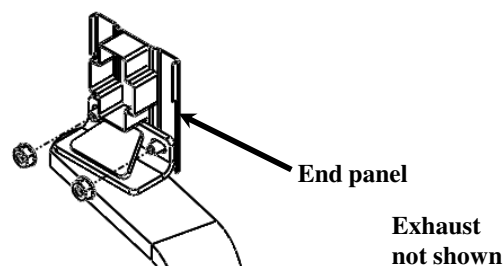

Figure 1
4. Install tie down fastener - Loosely install the remaining fasteners (items 1 thru 5) to the tie down hook as shown in figure 1 & 2.